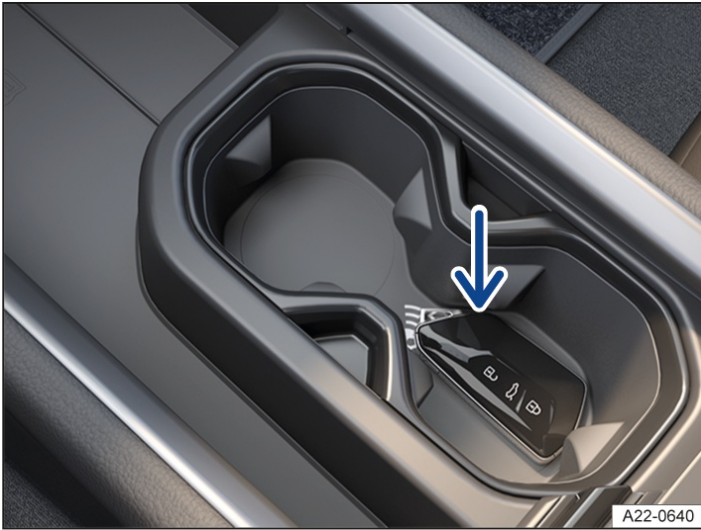

Fig. 1 In the centre console: emergency start function.
1. Place the vehicle key in the drink holder or stowage compartment in the centre console → Fig. 1 (arrow).